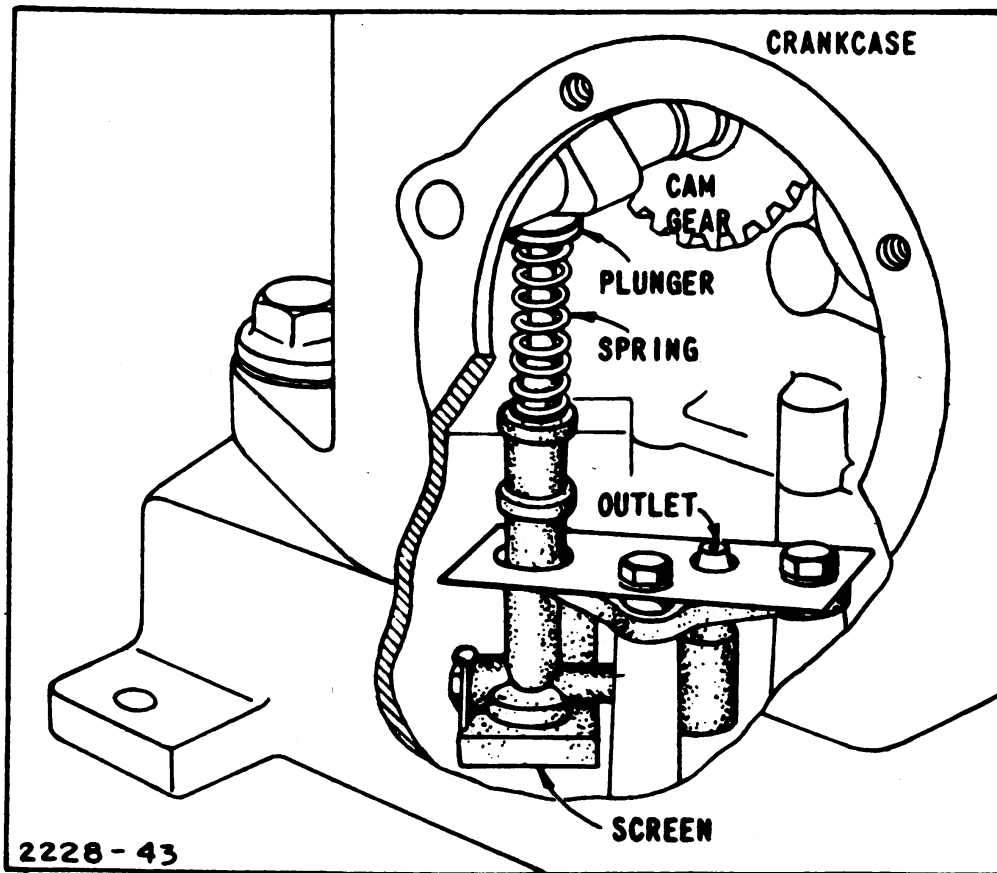

Figure 22.—Oil pump
34. OIL PUMP.—*a.* The oil pump is mounted in the crankcase with two bolts and lockwashers and is operated by an eccentric on the cam shaft (fig. 22). A defective pump will result in insufficient lubrication; this may score cylinder and piston assembly. To check oil pump, remove from base. Place the bottom of the pump in a pan of oil about $\frac{1}{2}$ inch deep. Work plunger up and down. A stream of oil will be forced out of the hole in the oil tube if the pump is in good operating condition. If clogged, remove plunger and plunger spring and submerge complete unit in gasoline for 3 to 4 hours to loosen accumulated sludge or gum. In assembling, be sure that spring and plunger are in place.